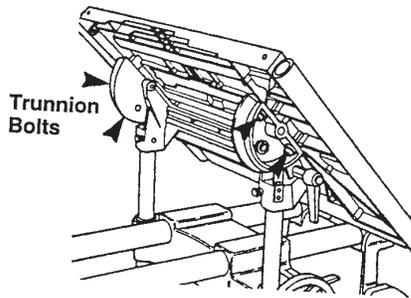

Figure C-44
- b. Use a 5/16" Allen wrench to loosen all four bolts (147) which hold the worktable to the trunnions, as pointed out in Figure C-44. Loosen the bolts only enough to allow movement with firm pressure. See Figure